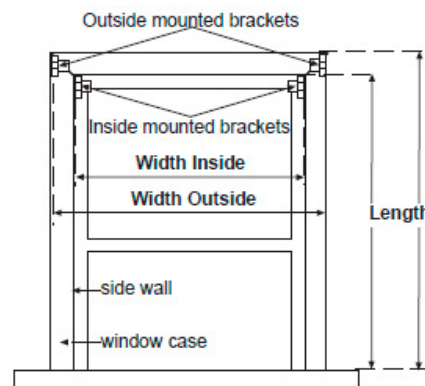

Figure 2. Measurements on a window
Step 1. See Figure 2.
Step 1. Mount the brackets to the window casing according to the marked locations in Figure 2 (see above). Figure 3 shows the proper bracket placement options. The left and right Skyline brackets are identical so the motor can be mounted on the left or the right side.